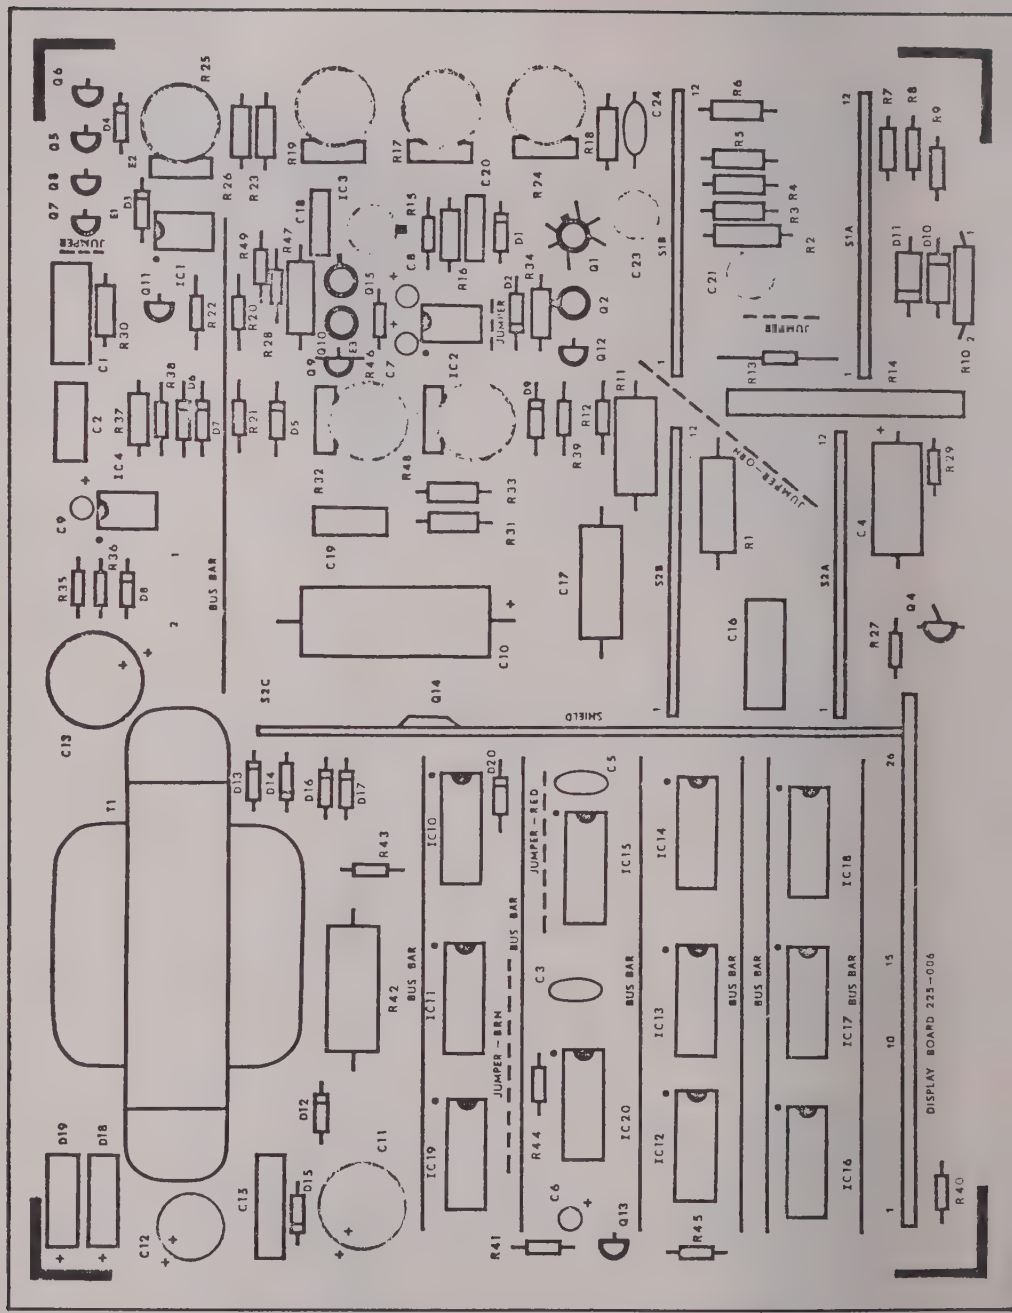

Figure 4-2. Component Parts Layout and Identification
b) Figure 4-2 is an illustration showing the location of components on the PC-Board assembly. All components are mounted on top of the PC-Board, and the board is marked with component reference designations.